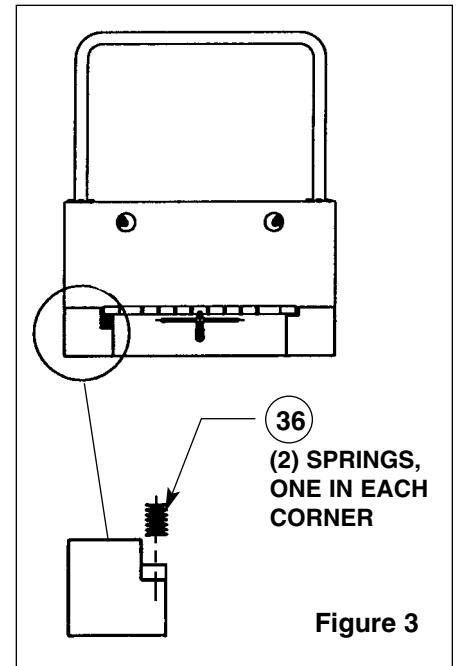

Figure 3
2. Place the (2) springs over the welded stops in the cabinet shroud (see Figure 3)